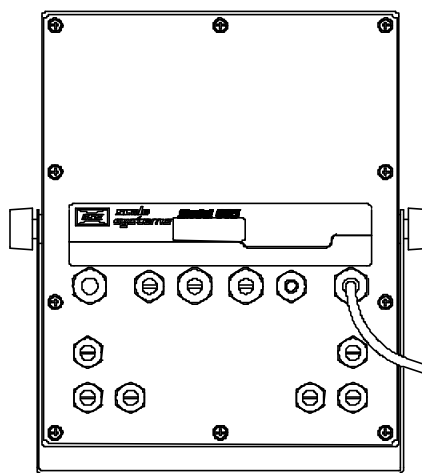

Figure 2-13: 665 Rear Panel
3. Using a #2 cross-tip (Phillips) screwdriver or an 8mm socket, remove the 10 8-mm hex head Phillips screws from the rear panel. See Figure 2-13 for a view of the rear panel.